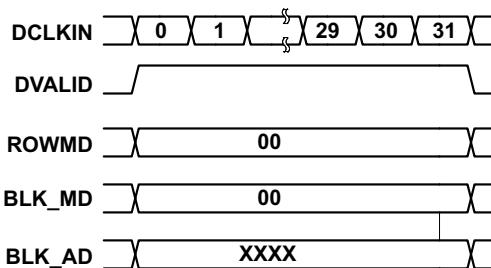

Figure 10. No-Op Row Cycle (DLP7000 example)
A Row No-Op is a row cycle in which setting ROW_MD = "00" commands the DLPC410 that within the current row cycle, no **Row Write** operation is to be performed. A Block No-Op is a row cycle in which BLK_MD = "00" commands the DLPC410 that within the current row cycle no **Block** Operation is to be performed. Row No-Ops can be inserted when only block operations are desired, Block No-ops can be inserted when only Row Write operations are desired, or both Row No-Ops and Block No-Ops can be performed at the same time when neither type of operation is desired (as shown in Figure 10). No-Ops are frequently inserted in the stream of data and commands when delays are desired to complete on-going operations to avoid violating delay requirements.
- No-Op row cycles are provided to the DLPC410 to enable MCP or Block Clear operations to continue. This is accomplished by asserting DVALID while holding ROWMD = "00" and BLKMD = "00" for the pre-requisite number of CLKS per ROW (Table 11) clock cycles, as in Figure 10. If no other blocks need to be loaded then continuous No-Op row cycles are applied as in Figure 10 .